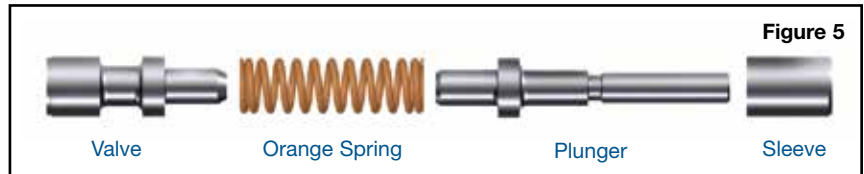

Figure 5
Step 6 Install Throttle Valve Kit (Figure 5)